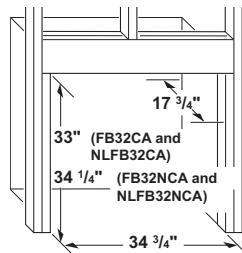
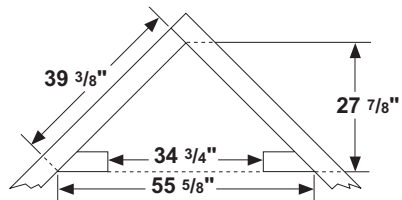

Figure 21 - Rough Opening for Installing in Wall
Figure 22 - Rough Opening for Installing in Corner
- Frame in rough opening. Use dimensions shown in Figure 21 for the rough opening. If installing in a corner, use dimensions shown in Figure 22 for the rough opening. The height is 33" (FB32CA and NLFB32C) or 34 1/4" (FB32NCA and NLFB32NC), which is the same as the wall opening in Figure 21.